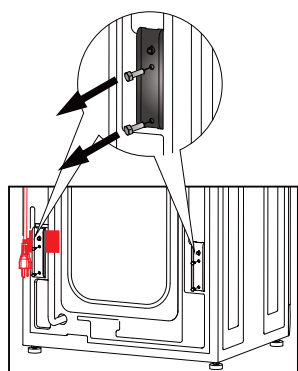
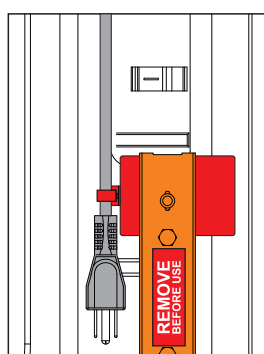
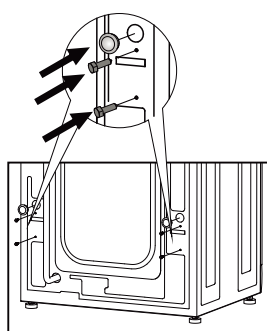

Fig.1
Fig.2
Fig.4
**Important:** The inside of the Super Combo consists of a free floating drum that is affixed with shipping bolts at the back of the cabinet during transport (Fig.1). The power cord can be accessed by removing the shipping bolts (Fig. 2 & 3). Close the holes left open by the bolts with the caps provided (Fig. 4).